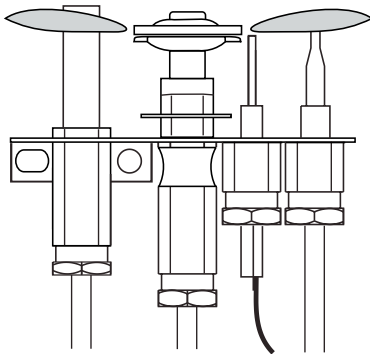

Figure 45. Pilot Burner
2. Adjust pilot key to provide properly sized flame. See Figure 45.